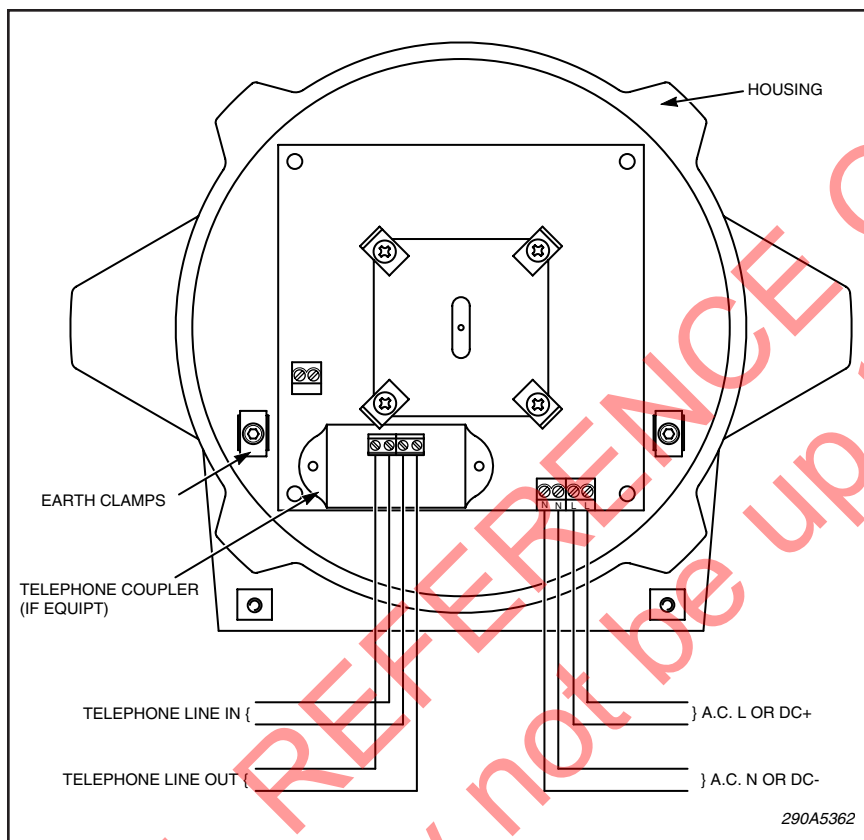

Figure 1.
- e. A four-pole screw terminal block is provided for field wiring. See figure 1 for wiring diagram. These terminals are rated for the following wire ranges: 22 to 12 AWG (0.5 to 4 mm²). Terminal tightening torque is 0.5 Nm.